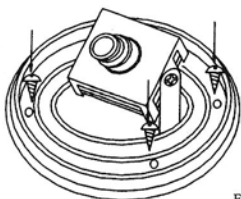

Figure 1
STEP 2: Secure Dome Camera in the desired ceiling position with the 3 screws as shown in figure 1.